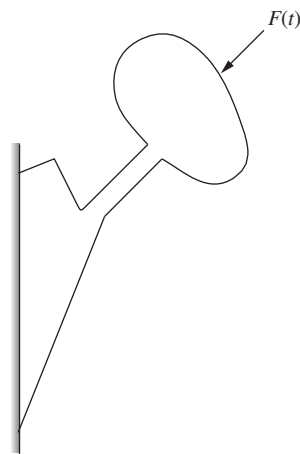

Figure P6.40 Hip implant subjected to a cyclic load.
- 6-40.** The hip implant shown in Fig. P6.40 is subjected to a cyclic load during a fatigue test. The load applied to the hip implant is given by